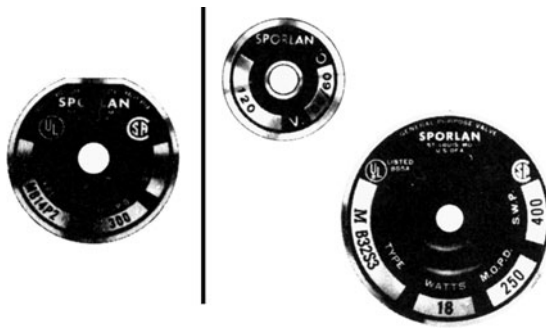

Figure 5-27 Valve nameplates with voltage, wattage, frequency, MOPD, and SWP. (Courtesy of Sporlan)
The use of low-voltage control systems is becoming more widespread as the demand for residential air conditioning increases. This necessitates the use of a transformer for voltage reduction, normally to 24 volts. The selection of a transformer is not accomplished by merely selecting one that has the proper voltage requirements. The volt-ampere (VA) rating is equally important. To determine the VA requirements for a specific solenoid valve, refer to the manufacturer's data. Insufficient transformer capacity will result in reduced operating power or a lowering of the maximum operating pressure differential (MOPD) of the valve. MOPD and safe working pressure (SWP) are usually noted on the valve nameplate (see Fig. 5-27).